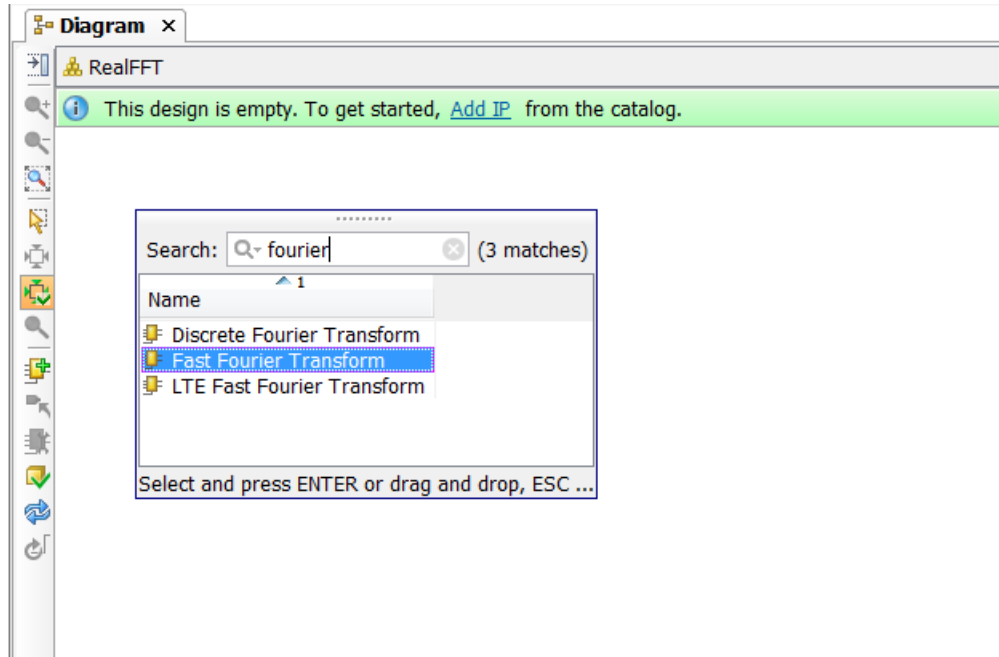

Figure 196: Add the Xilinx FFT IP
2. In the Diagram tab click the **Add IP** link in the “get started” message (Figure 196).